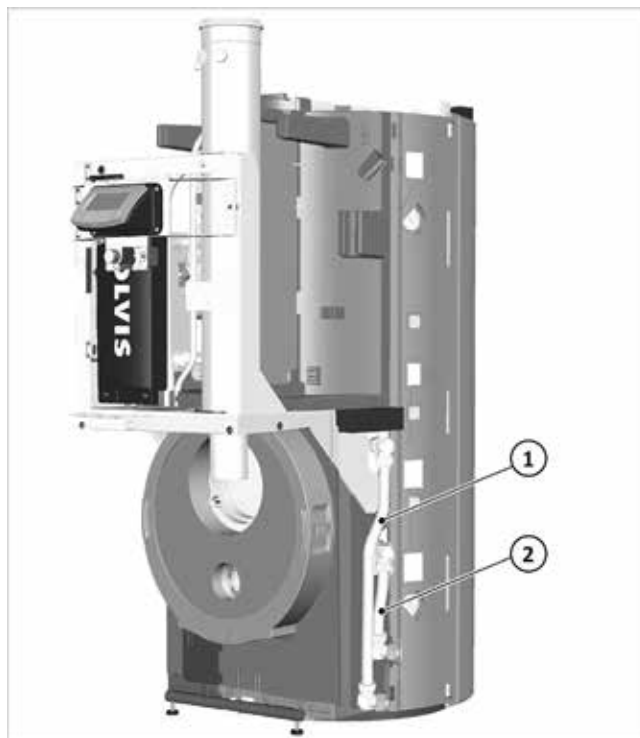

Fig. 35: H-VL (1)/H-RL connection (2) for external heating circuit stations
1. Remove the two elbows on the heating flow and heating return connections (see ➔ fig. 35, page 19).